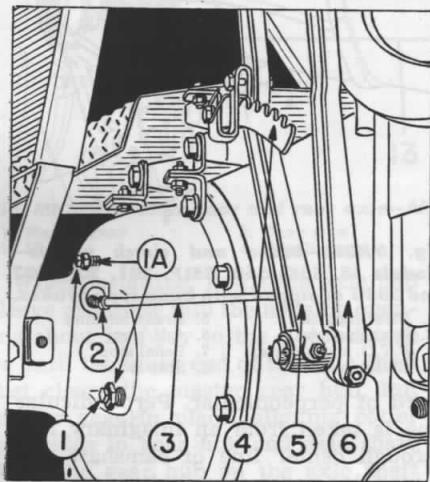

Fig. MH382—Single disc brake controls—Models 20, 20K, 81 and 82.
282. Jack up right or left rear wheel and loosen locknuts on the three brake adjusting bolts (1A—Fig. MH382). Turn each bolt in separately until a slight drag is felt when turning wheel by hand, and then back off adjusting bolt until wheel turns free. Then back off each bolt an additional one-quarter turn and tighten locknuts. Adjust opposite brake using same procedure. If brake pedal travel is unequal after brake adjustment, equalize by adjusting pull rods (3).